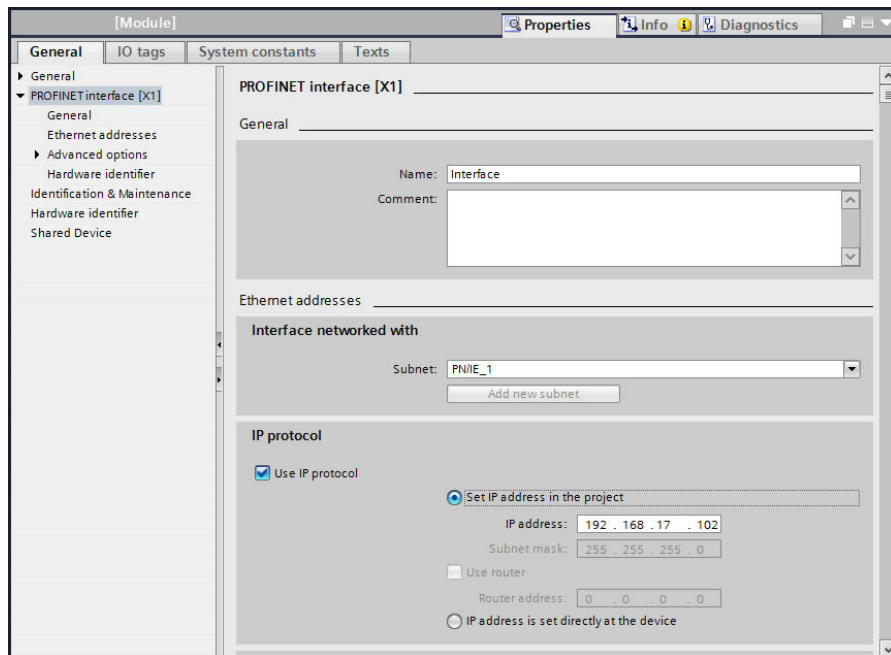

Figure 85: Assign Unique Compatible IP Address
1. Select the device and navigate to the **Properties** tab. Select the **PROFINET interface [X1]** node. Assign a unique and compatible **IP address** for this device as shown in Figure 85.